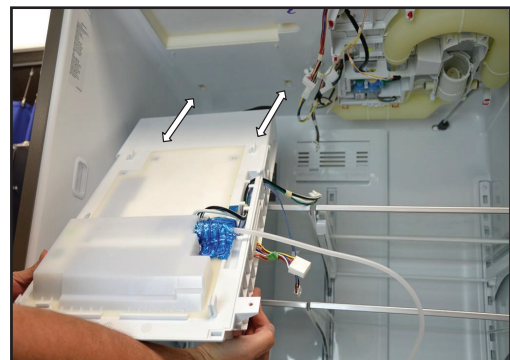

FIGURE 32
5. Drop down the front of the ice maker assembly and slide out to disengage the 2 tabs from the slots in the top of the cabinet. See *Figure 32*.